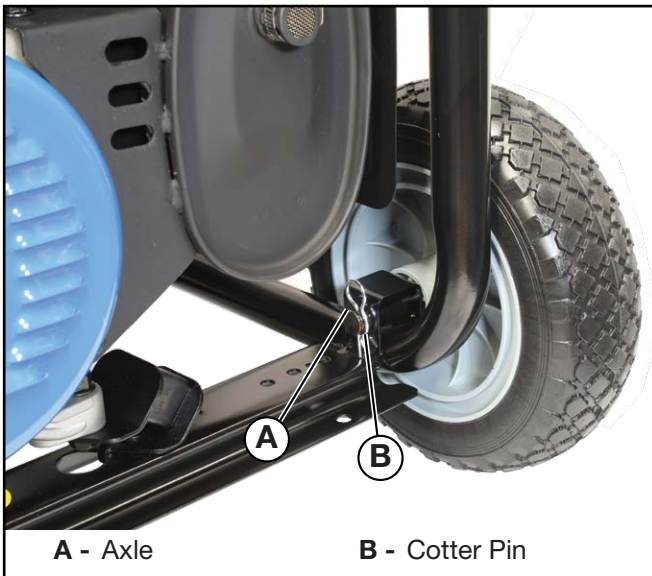

Figure 6 – Attaching Wheel to Frame
3. Insert the straight leg of one cotter pin through the hole in the end of the axle as shown in *Figure 6*.